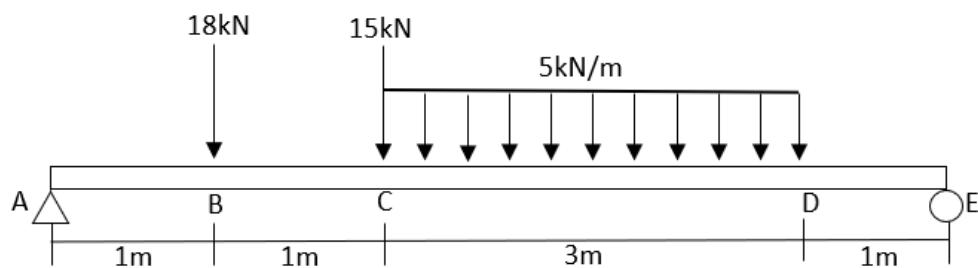

Figure B1(b) / Rajah B1(b)
- CLO2 (b) A simply supported beam is loaded to uniformly distributed load and point load as shown in Figure B1(b). Given the reaction  $R_{Ay} = 31.25 \text{ kN}$  and  $R_{Ey} = 16.75 \text{ kN}$ , calculate shear force value and bending moment value at each point.